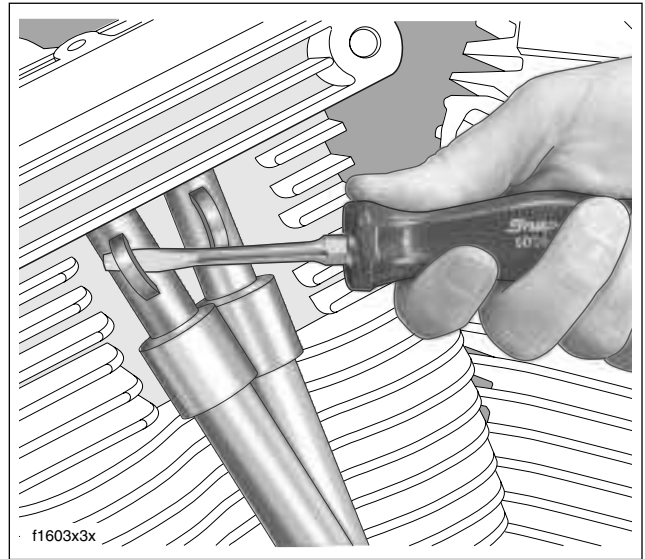

Figure 3-21. Remove Spring Cap Retainer
4. Insert the blade of a small screwdriver into cast loop of spring cap retainer (at top of upper push rod cover), and while pushing down on spring cap, rotate bottom of screwdriver toward outboard side to remove. See Figure 3-21. Repeat step on second push rod cover.